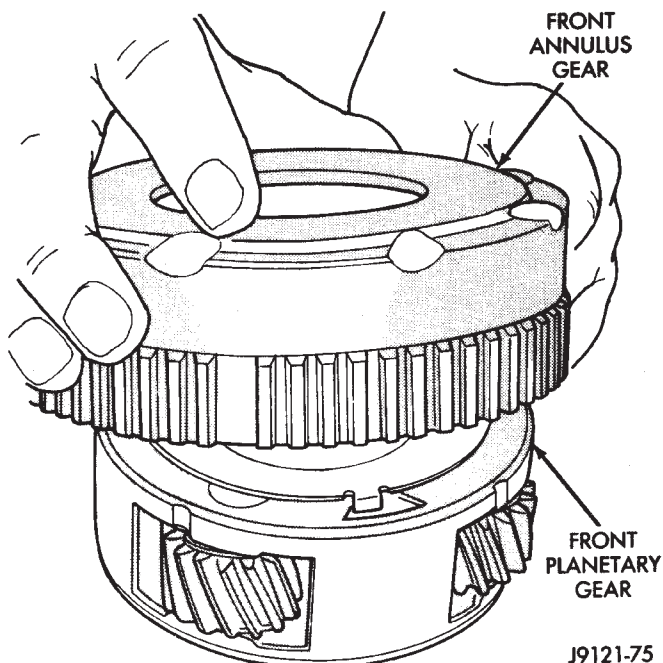

Fig. 187 Assembling Front Planetary And Annulus Gears
(11) Install front annulus gear over and onto front planetary gear (Fig. 187). Be sure gears are fully meshed and seated.